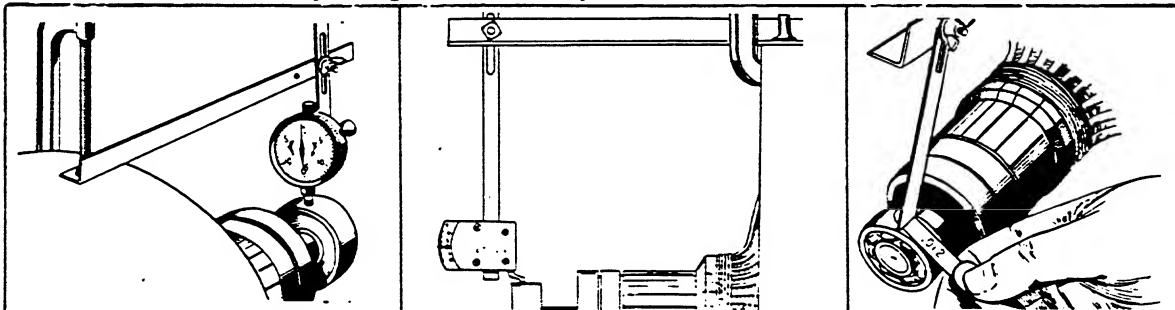

FIG. 51 - CHECKING GENERATOR BEARING RUNOUT
**ARMATURE INSTALLATION.** - When installing the armature, the runout at the bearing end should not exceed .012". This runout can be checked by one of the methods shown in Fig. 51. Excessive runout may be caused by a nick or foreign matter on the flange surfaces. Take any steps necessary to correct.